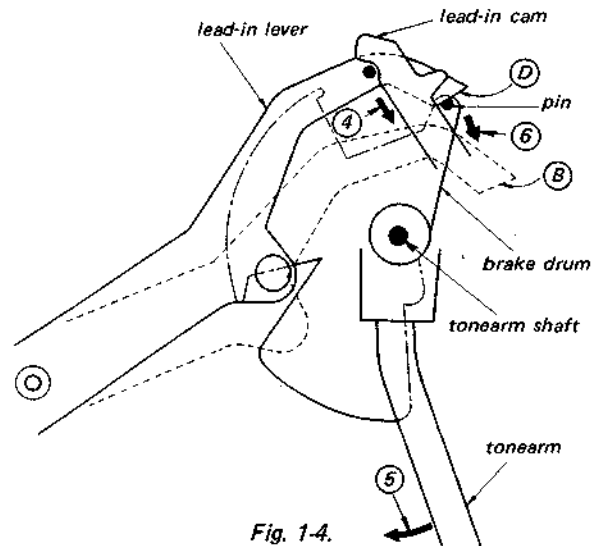

Fig. 1-4.
5. At this time, the lead-in lever moves in the direction of arrow ④, guided by the lead-in cam which moves together with the main lever. The tip ④ of the lead-in lever moves to position ⑤, pushing against a pin on the brake drum in the direction of arrow ⑥. And since this brake drum moves in unison with the tonearm, the tonearm will move across (horizontal movement) in the direction of arrow ⑤. (See Fig. 1-4.)